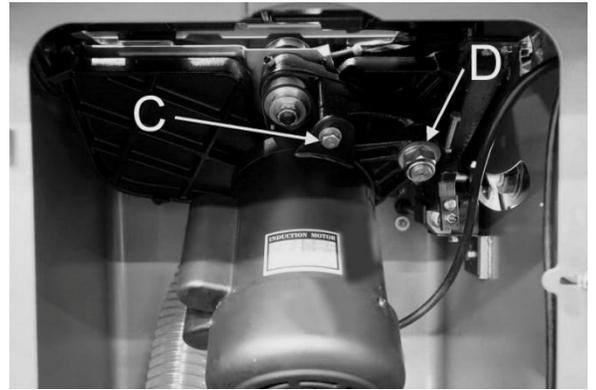

Figure 28
5. Rotate marked tooth (A) so that it is slightly above table top at the rear and, using the square as before, verify that distance to blade is the same. See Figure 28. If the distances are not the same, make a careful note of the difference.
Refer to Figure 28.
2. Loosen screw (C, Figure 28) with 8mm hex key.